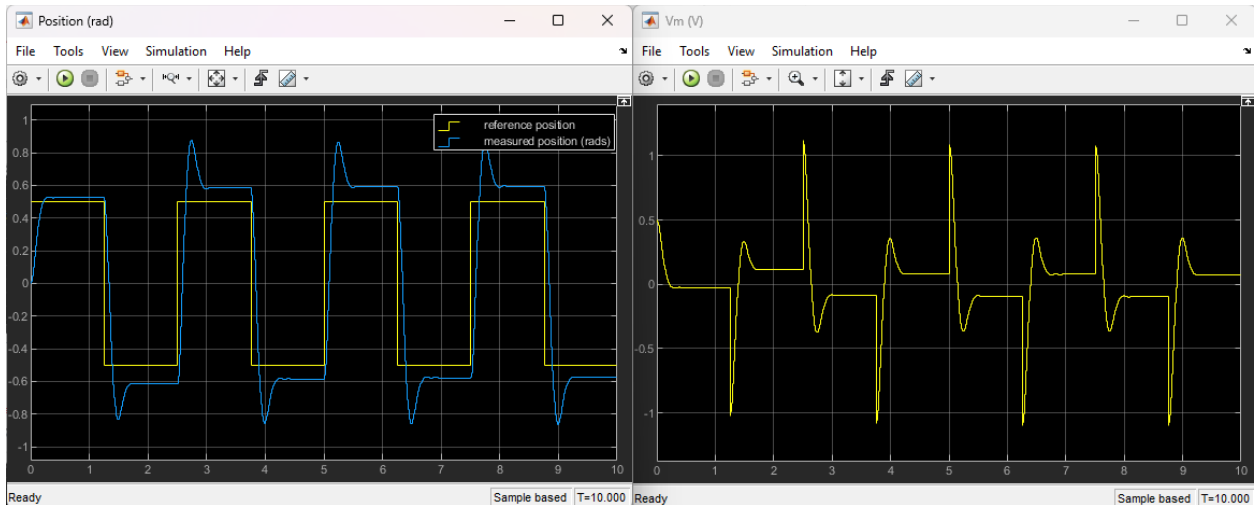

Figure 4: Proportional Position Control response with $k_p = 1$
17. Run the controller with a **proportional gain of 1.5**. Save the position response and motor voltage scope responses. With a k_p of 1, it should look like Figure 4.
31. Run the controller with a proportional gain of 0.5. Save the speed response and motor voltage scope responses. With a k_p of 0.7, it looks like Figure 4.